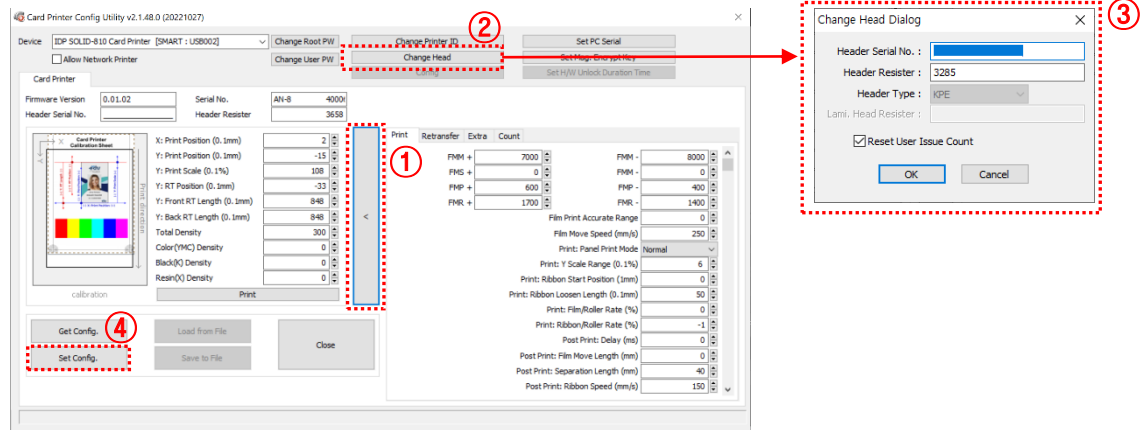

Figure 94 Printer head setup
1. Check the serial number and the resistance of new TPH as figure 94.